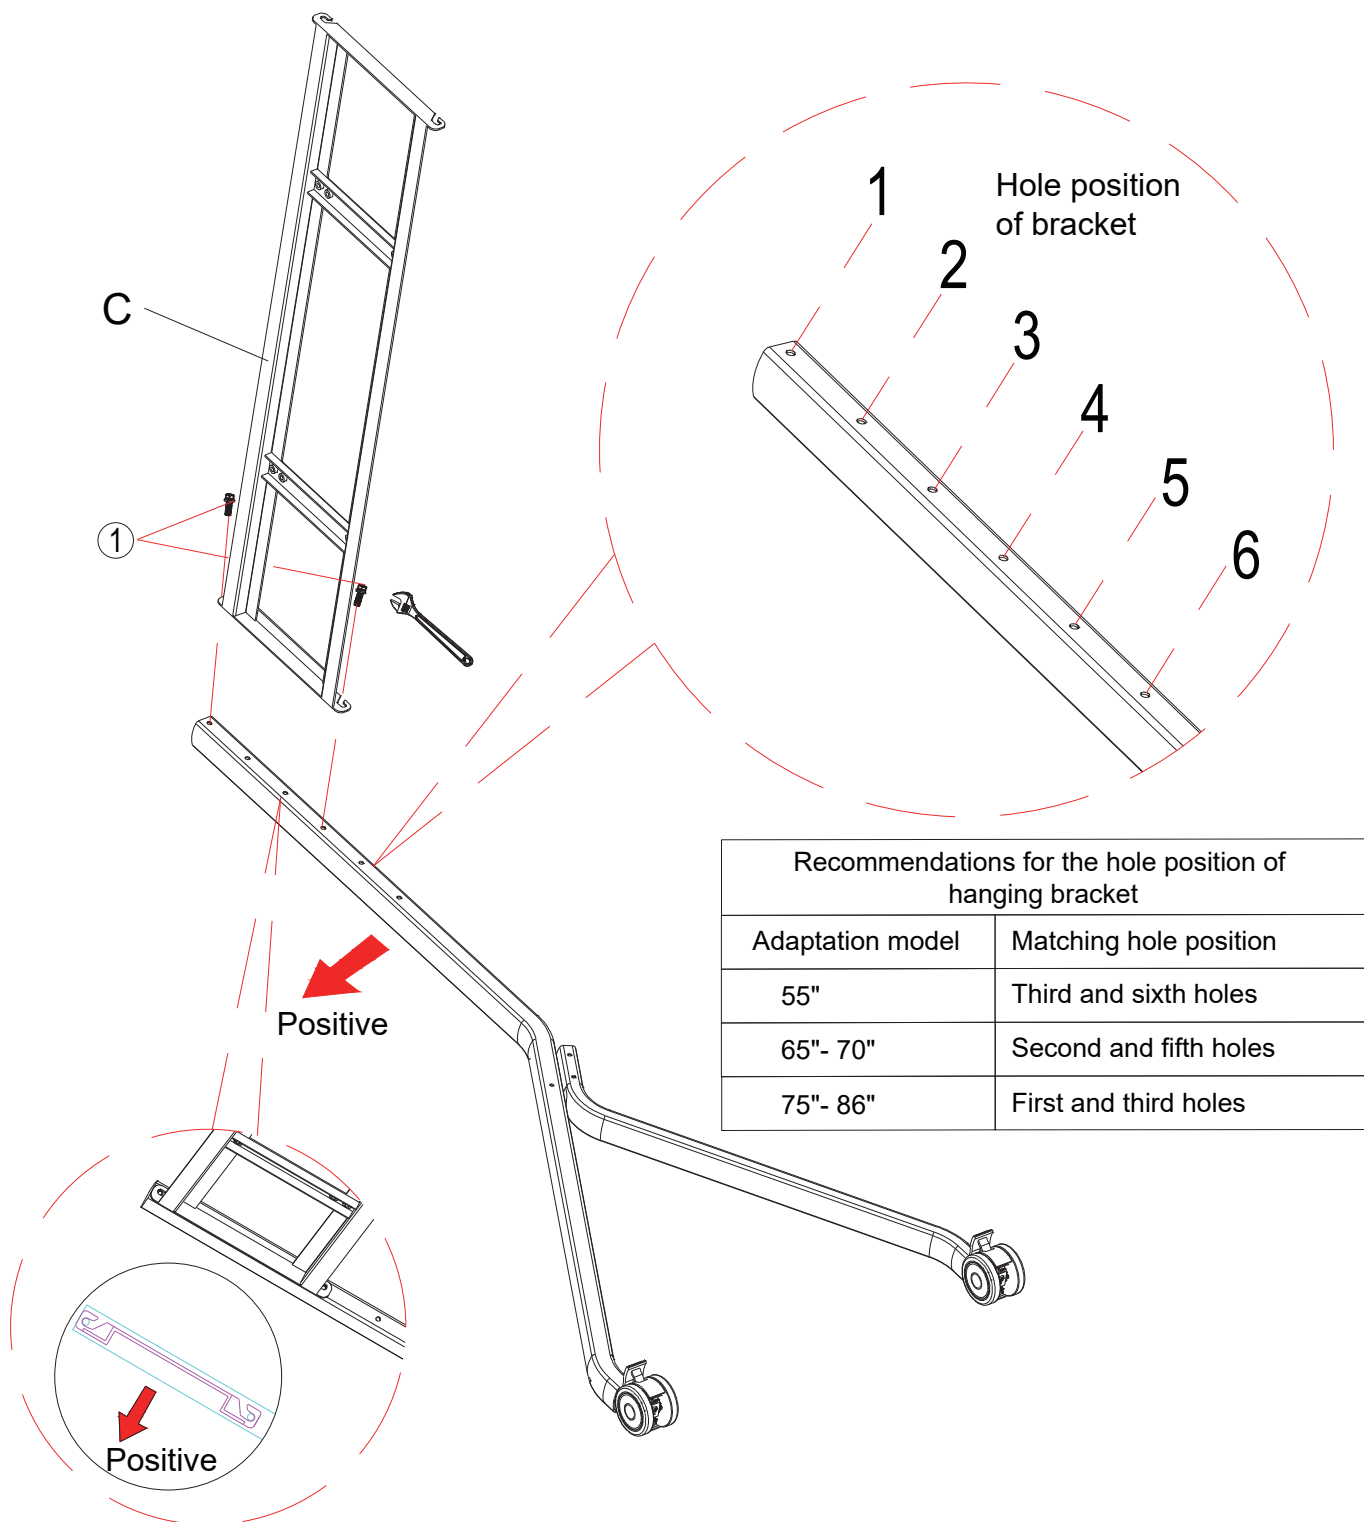

FIG 2
Step 2: Attach the wall hanger bracket lock to one end of the leg.(Refer to figure 2)